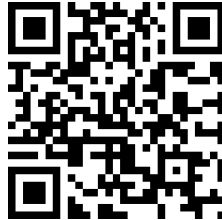

Fig.10.1
1.1 Download and install “Sime” APP from Google Play Store or IOS APP Store (Fig10.1).